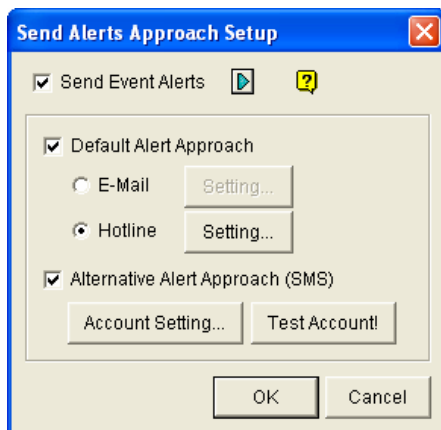

Figure 10-12 Send Alerts Approach Setup
- Click the **Test Account** button (Figure 10-12). If the connection of both devices is established, the message will appear: *Login SMS Server OK!* If the connection fails, the message will appear: *Connect to SMS Server Fail.*
1. Open the **Send Alerts Approach Setup** dialog box (Figure 10-12).
1. On the main screen, click the **Configure** button (No. 14, Figure 1-2), select **System Configure**, and select **Send Alerts Approach Setup**. The Send Alerts Approach Setup dialog box (Figure 10-12) appears.